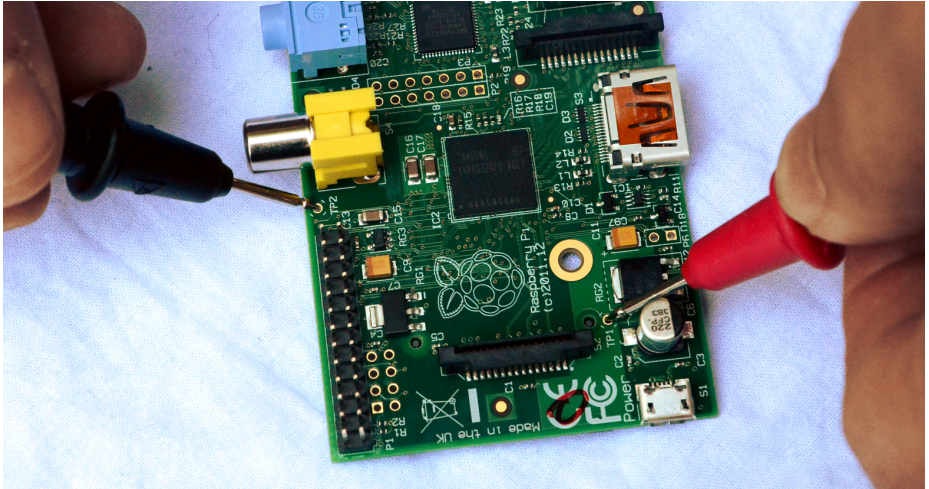

Figure 1-15.
3. Touch the red lead of your multimeter to TP1 and the black lead to TP2 (as shown in Figure 1-15).